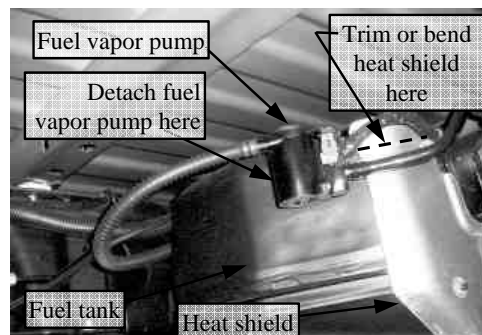

Figure 2
4. Cut the heat shield on the gas tank or bend the top edge down about 1" down to make room for the hitch (see Figure 2). On newer models with gasoline engines, temporarily detach the fuel vapor pump from the back of the gas tank.